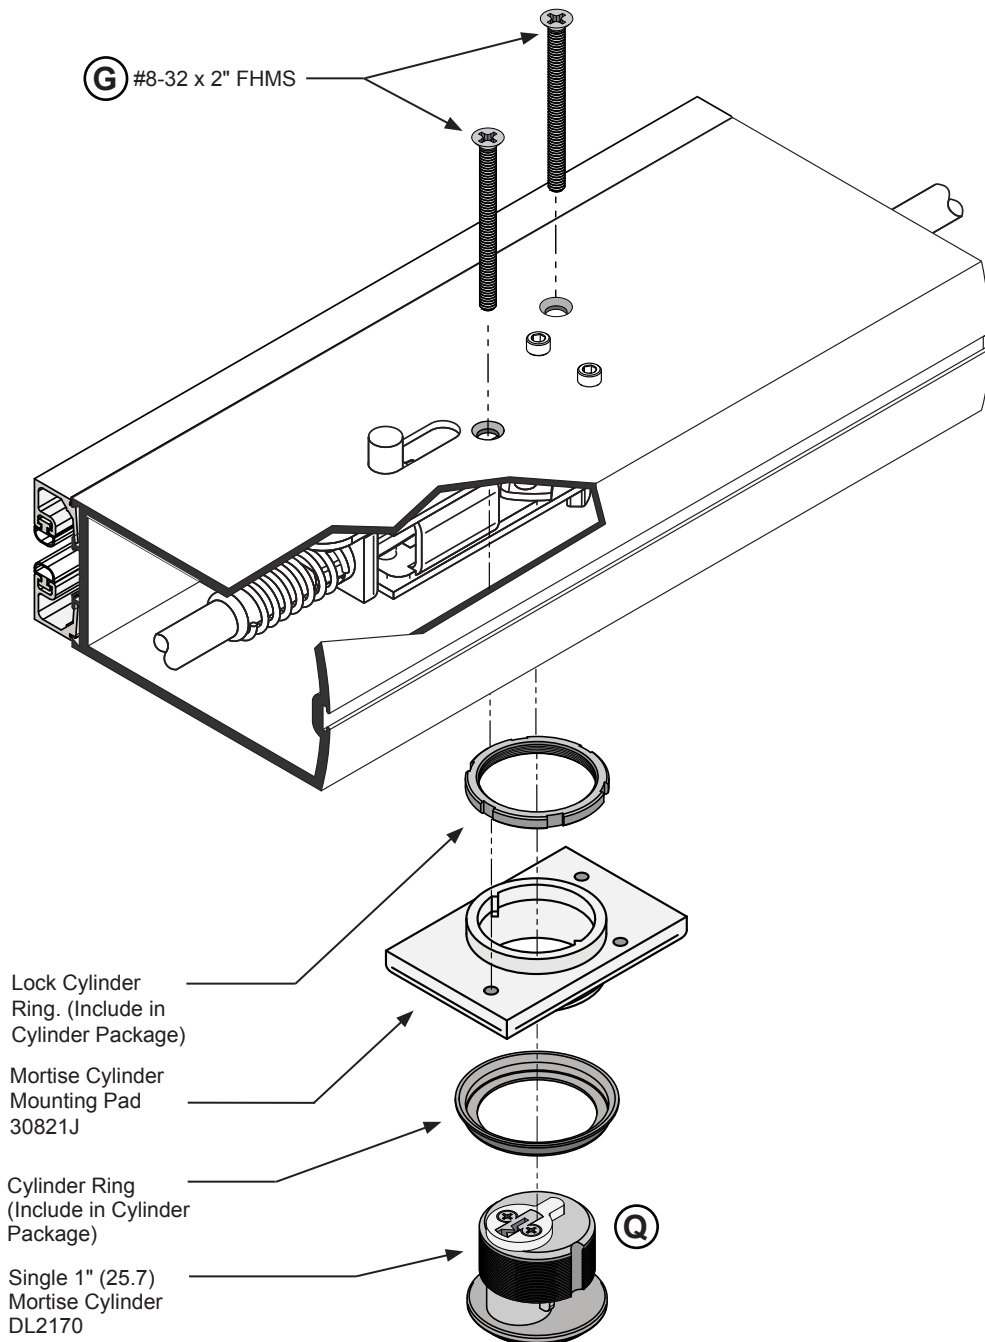

FIG. 11
2. Attach to exterior Active Stile with **G** (2) #8-32 x 2" FHMS Philips screw as shown on (Fig. 11).